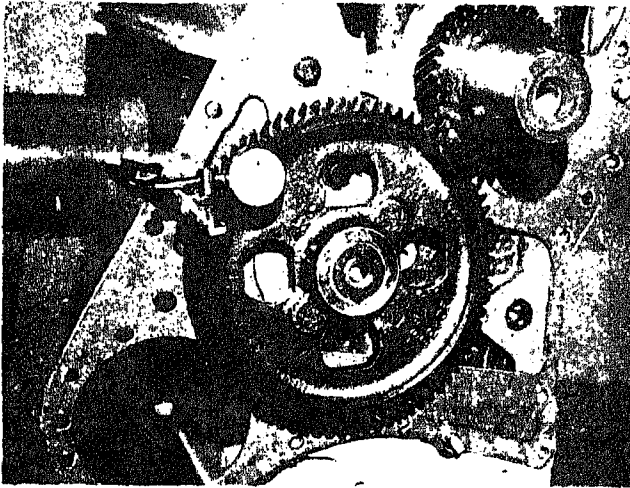

Fig. 14-1-25. Checking camshaft end play
3. Push camshaft and gear toward rear of engine as far as possible; read gauge, Fig. 14-1-25.